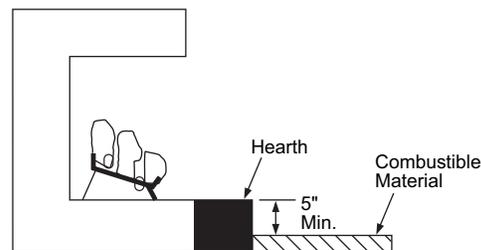

Figure 9 - Minimum Fireplace Clearances Above Combustible Flooring
- If combustible materials are less than 14" to the fireplace, you must install appliance at least 5" above the top surface of combustible flooring including tile and carpet (see *Figure 9*).